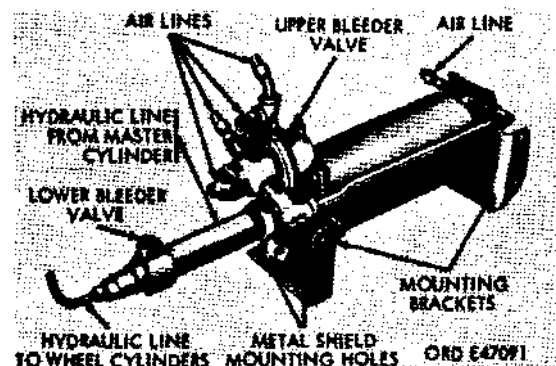

Figure 301. Air-hydraulic cylinder
f. Air-Hydraulic Cylinder (Power Brake Unit). The air-hydraulic cylinder (fig. 301), mouted directly below the master cylinder,